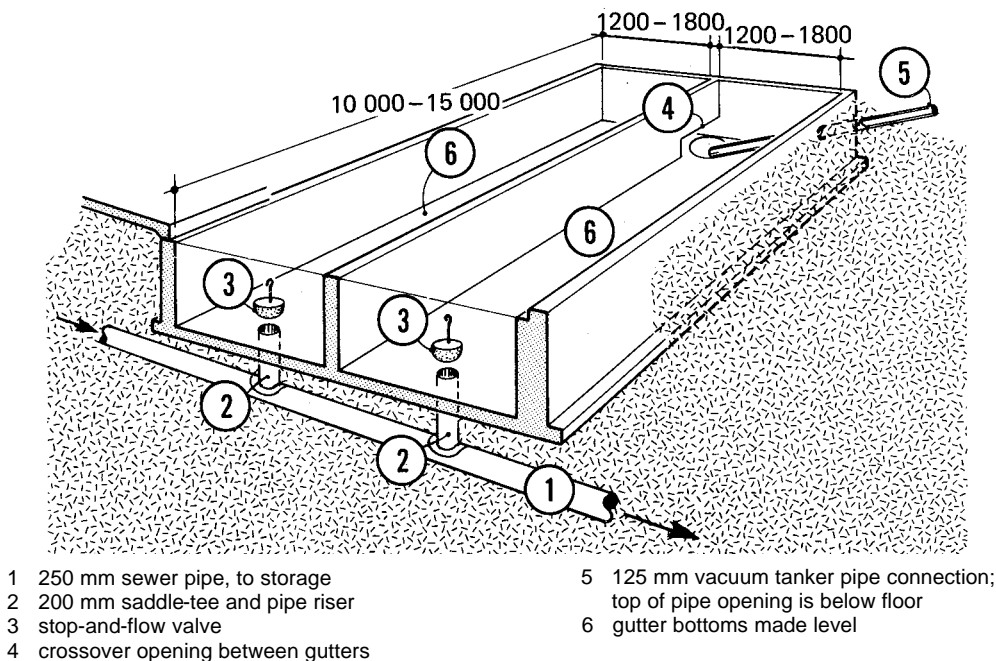

Figure 4 Stop-and-flow gutter system with 'hairpin' feature
Figure 4 shows more features that make the stop-and-flow system more trouble-free and safer. Where two shallow gutters (6) can run side-by-side, it has been useful to cross-connect the remote ends of the gutters at (4). Then one valve (3) will flush both gutters. When the gutters are again ready for flushing 1 or 2 weeks later, the other valve (3) is pulled, reversing the flow. This seems to help dislodge settled solids that previously accumulated at the blind end of each gutter.
Another feature in Figure 4 is the emergency pumpout pipe (5) that can be connected to a vacuum tanker to flush and pump out settled solids. Note that this pipe opens below the floor level of the gutters; just a small amount of liquid remaining in the floor depression forms a gas trap. All of these features are designed to solve manure gas and plugging problems at the source, without requiring anyone to lift out slotted floor units and go down into the gutters where the manure gas will be concentrated.